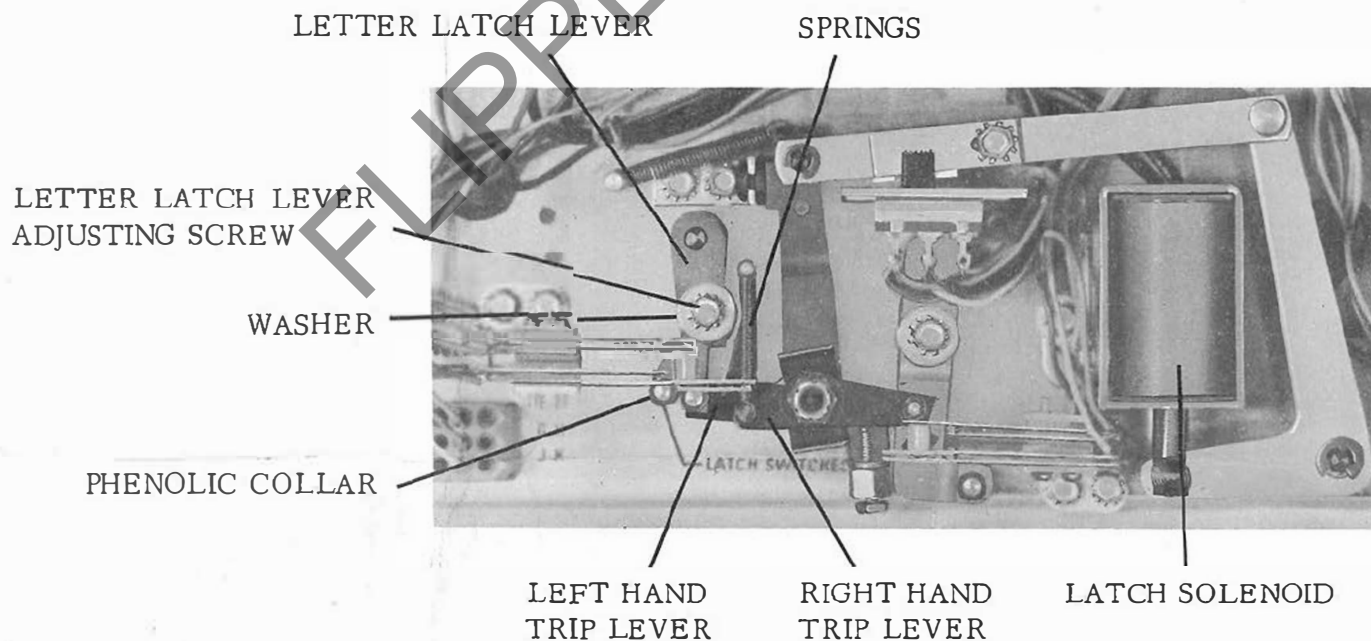

Figure 1
Verify that LETTER LATCH LEVER is equipped with PHENOLIC COLLAR as shown in Figure 1. If LETTER LATCH LEVER is not equipped with PHENOLIC COLLAR, replace as follows:
1. Remove and retain SPRINGS from LEFT and RIGHT HAND TRIP LEVERS as shown in Figure 1.